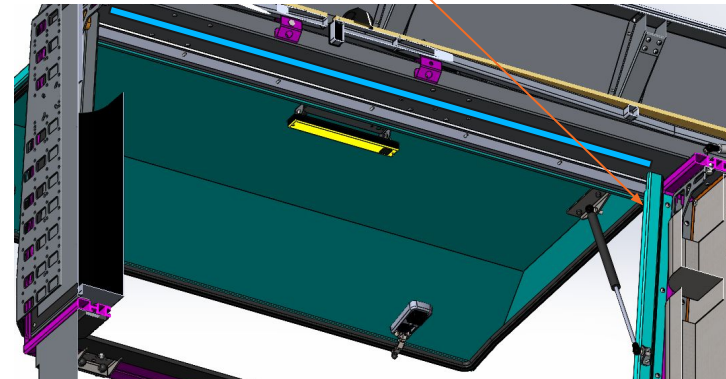

Figure 2: Velcro Application (Top Surface)
Cut a velcro strip 1320mm(DC) long or 940mm(SC) long. Centre the strip of Velcro, with the side door opening, to double check that the correct length will be applied. The ends of the Velcro strip must align with the vertical edges of the side door frame. Shown in Figure 2, below:
Peel back the white backing layer, and apply the Velcro, starting at the one end, flush on both edges of the frame, and work your way along the length slowly. After the Velcro is seated, use the 3M PA-1 Applicator to apply a smooth, constant pressure sweep from one end to the other. This even pressure activates the bonding adhesive, and pushes out air bubbles. See Figure 2.